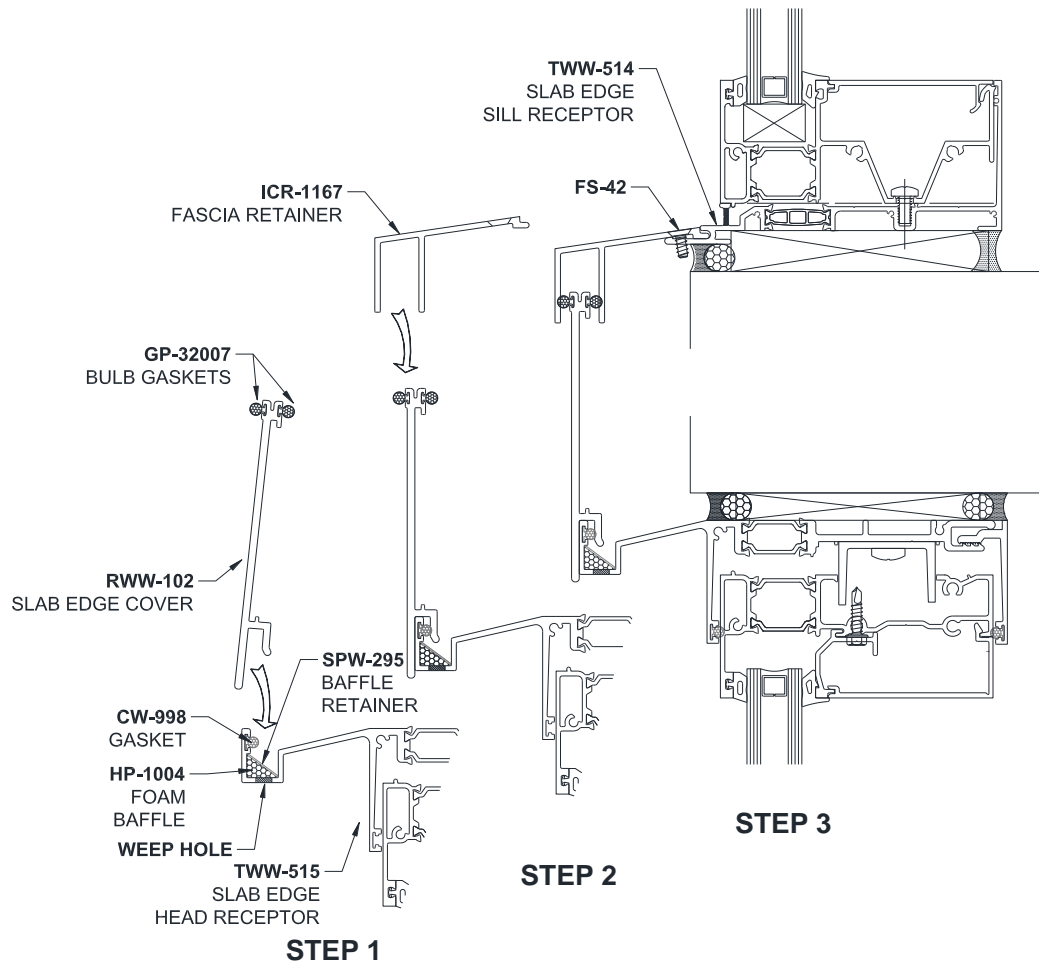

Figure 91: Slab Edge Cover Installation
- 31.3 Add **GP-32007** Bulb Gaskets to the **RWW-102** Slab Edge Cover, front and back, as shown in *Figure 91*.